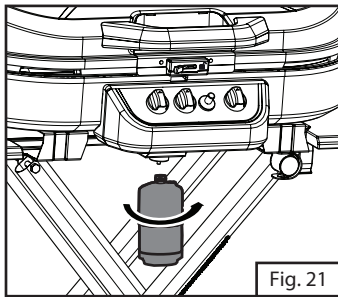

Fig. 21
2. Remove plastic cap from top of propane cylinder and screw cylinder into regulator hand tight. (Fig. 21)